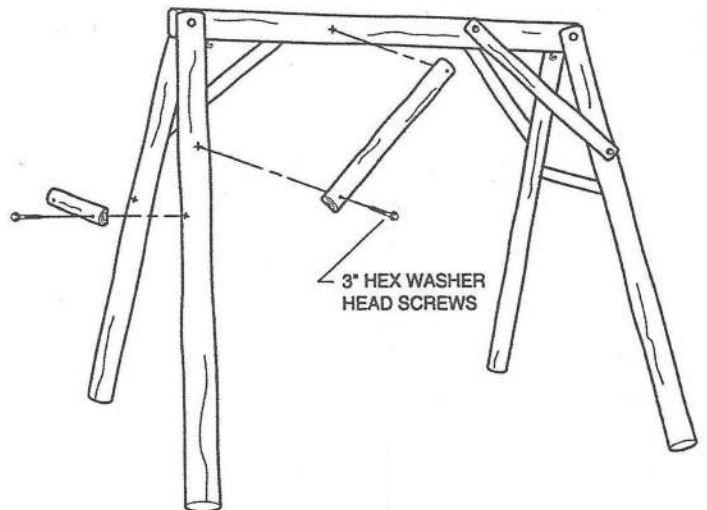

figure 3
STEP 3 (TWO PEOPLE RECOMMENDED.) Lift top rail with legs attached allowing legs to swing into position underneath. Attach braces (as illustrated in figure 3) to pre-marked positions tapping 3" hex washer head screws with a hammer to start them into legs and tightening them with a 7/16" wrench. After all 6 braces are attached and frame is setting on firm level surface, tighten them securely. Now tighten the nuts and bolts that attach the legs to the top rail with 9/16" wrench, making sure bolts are **TIGHT**.